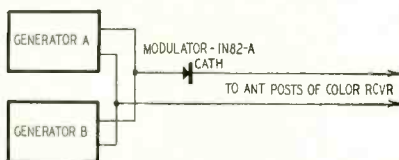

Fig. 1—Generators and diode provide rainbow patterns in color receiver.
**S**ERVICE technicians in the larger cities are becoming familiar with the rainbow type display on a color TV picture tube. Rainbow patterns are very easy to produce; all that is required are a pair of conventional signal generators and a crystal diode (Fig. 1). The generators are in parallel and feed their combined output through the crystal diode which operates as a modulator. The modulated out-
The output from the arrangement shown in Fig. 1 is a constant modulated voltage so that the level of the offset color subcarrier does not change from one hue to the next. Neither does the